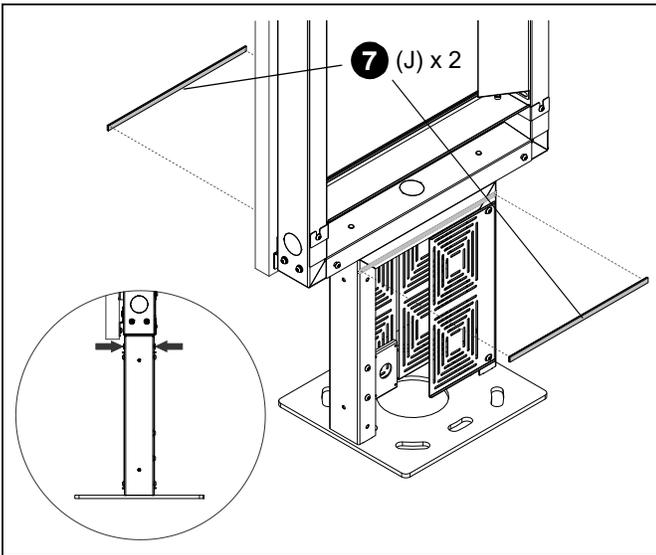

Figure 29
- Attach all desired components to the storage racks (AD) and outlet adapter (AE). Make sure all components are connected and cables are routed as required.
- Apply foam tape (J) to the front and rear faces of the base. (See Figure 29)